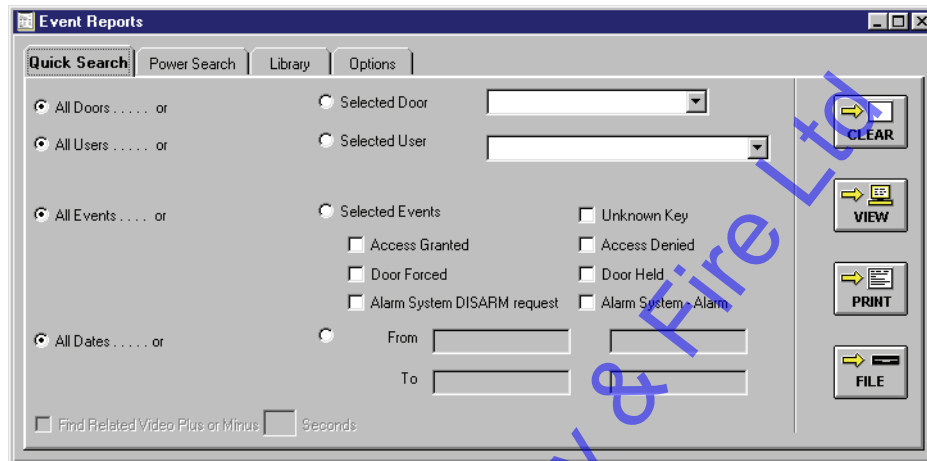

Figure 7-10: Quick Search Event Reports Window
To create a quick search event report, click on the Reports ⇒ Searchable Events pull-down menu option. The Event Reports window appears (see Figure 7-10).
1. To select all doors, click on the **All Doors** radio button (the default value, see Figure 7-10 on page 11 of this section).
1. To select all users, click on the **All Users** radio button (the default value, see Figure 7-10 on page 11 of this section).
1. To select all events, click on the **All Events** radio button (the default value, see Figure 7-10 on page 11 of this section).
1. To select all dates, click on the **All Dates** radio button (the default value, see Figure 7-10 on page 11 of this section). This will show all information available on the criteria selected above without any date filter.